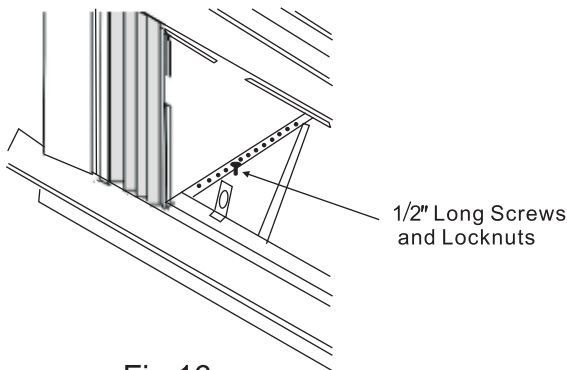

Fig.16
3. Install support brackets (with sill angle brackets attached) to correct hole in bottom of cabinet as shown in Fig.16.